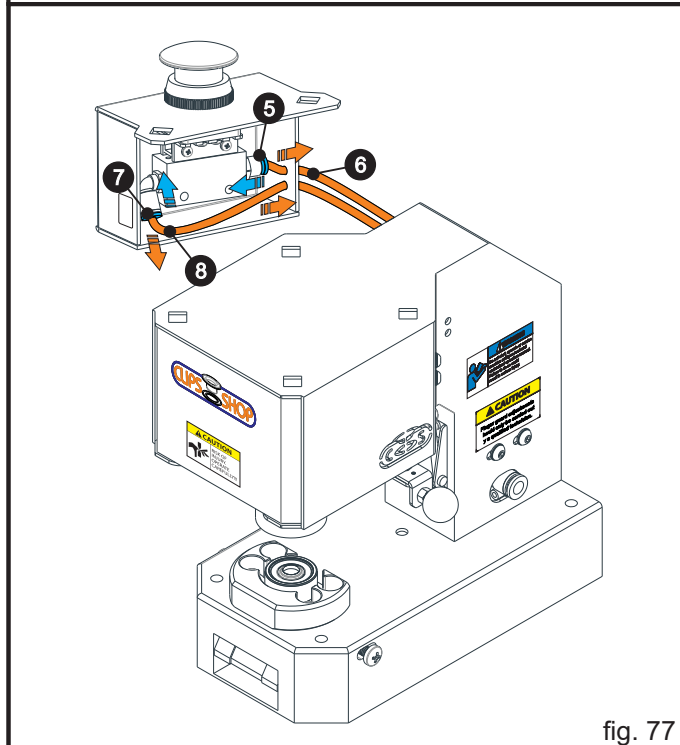

fig. 77
While pushing the blue parts⑤⑦ of the valves in blue arrow direction, remove the pipes⑥⑧ from start button box by pulling them in the orange arrow direction as shown in (fig. 77).